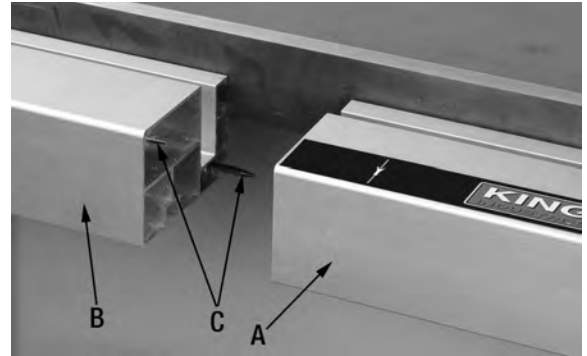

FIGURE 16
- 5) Now install the long front rail (A) Fig.16 to the opposite side of the table and extension table following the same steps as the short front rail. Slide the upper slot of the long front rail over 3 of the hex. bolts on the right side of the Table Saw. Do not completely tighten the hex. nuts at this point as the position of the front rails will need to be adjusted, refer to section “**ADJUSTING RIP FENCE RAILS AND EXTENSION TABLES**” further in this manual.
- 6) Both the short and long front rails (A & B) Fig.16 now need to be fitted together. This is achieved by inserting the positioning pins (C) of the short front rail into the holes in the long front rail.